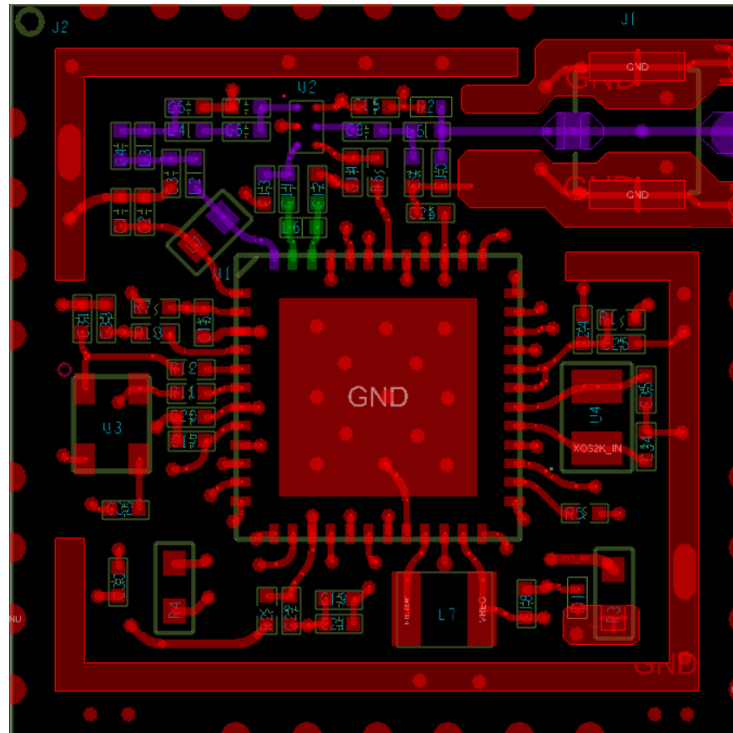

Figure 4-1 RF Routing
Pay attention to the following aspects regarding the PCB RF routing shown in Figure 4-1:
6. Avoid abrupt changes in RF trace width, especially at the pad. Use the trace of the same width as the pad, or add the tapered trace to reduce abrupt changes in impedance (See SMA pad traces in Figure 4-1).
- (a) Match the single-end 50 ohms impedance on RFO RF traces (See purple traces in Figure 4-1).
- (b) Match the differential 100 ohms impedance on RFI_N and RFI_P RF traces (See green traces in Figure 4-1).